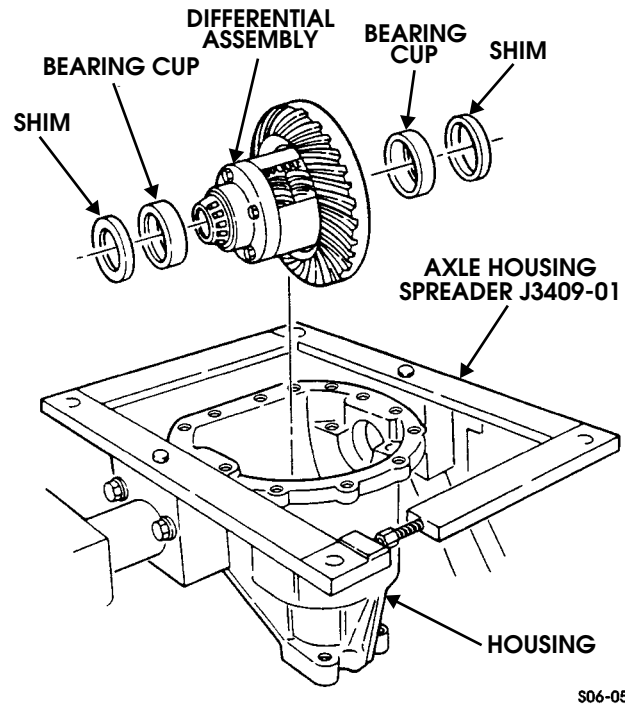

Figure 9-62: Differential Assembly
11. Remove differential assembly, two bearing cups, and shims from housing (Figure 9-62). Tag bearing shims and bearing cups for assembly.